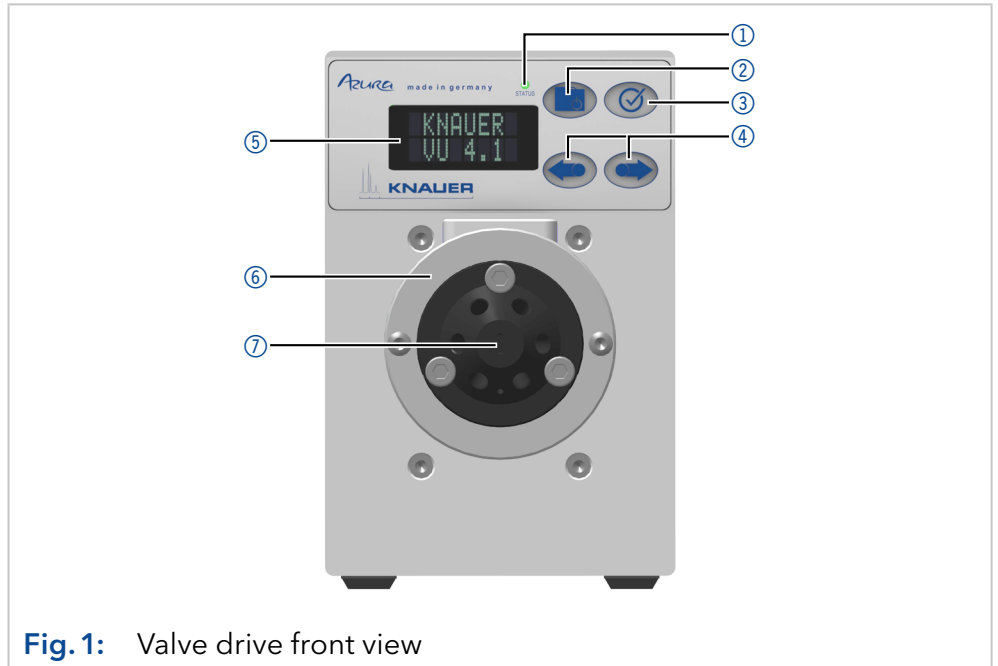

Fig. 1: Valve drive front view
The device status is displayed on the front (see Fig. 1 no. ①). The color of the LED shows the current status.